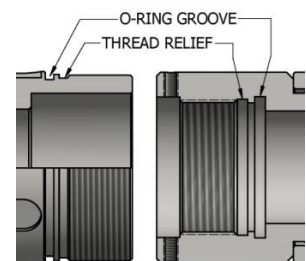

Fig. 2
**CAUTION5:** To ensure tool operates properly, install o-rings in o-ring grooves **NOT** thread relief (Fig. 2).